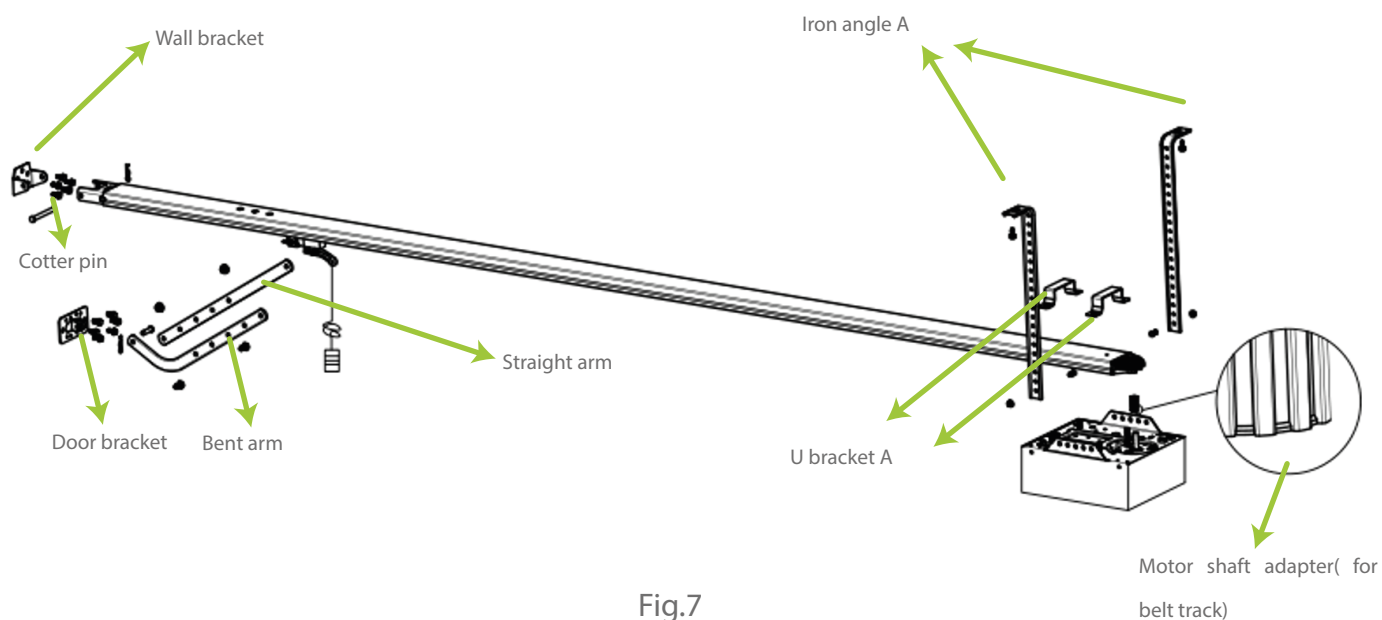

Fig.7
Sleeve the motor shaft adapter to the motor shaft according to Fig. 7
7. Install according Fig. 7